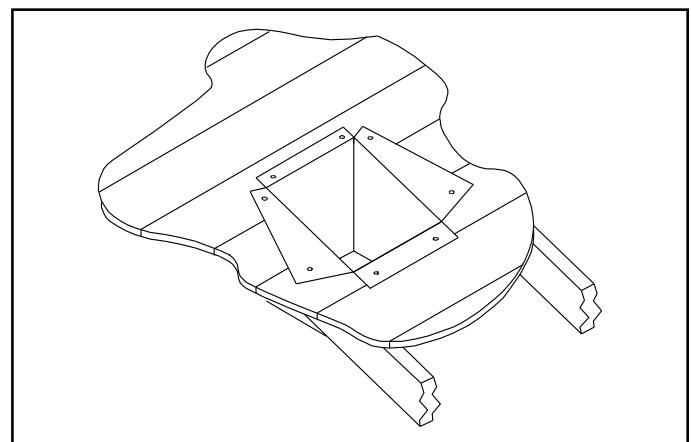

Figure 10.10
- Use tin snips to cut the support box from the top corners down to the roof line and fold the resulting flaps to the roof. See Figure 10.10.